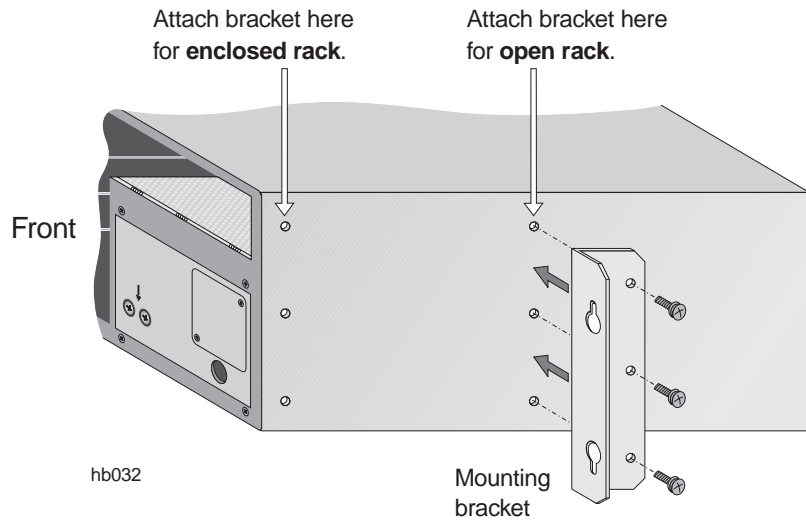

Figure 3-4 Attaching rack mounting brackets to the IDU chassis
1. Attach the rack mounting brackets as shown in figure 3-4. Be sure to use the correct sets of holes (front or midpoint) for each bracket, as indicated in figure 3-4.